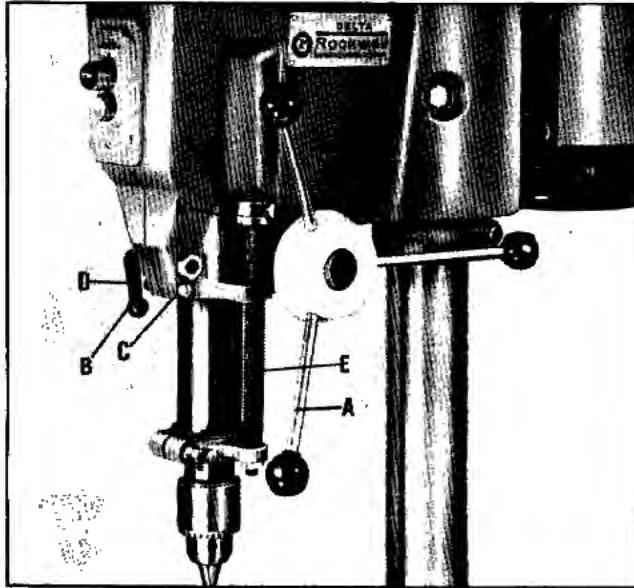
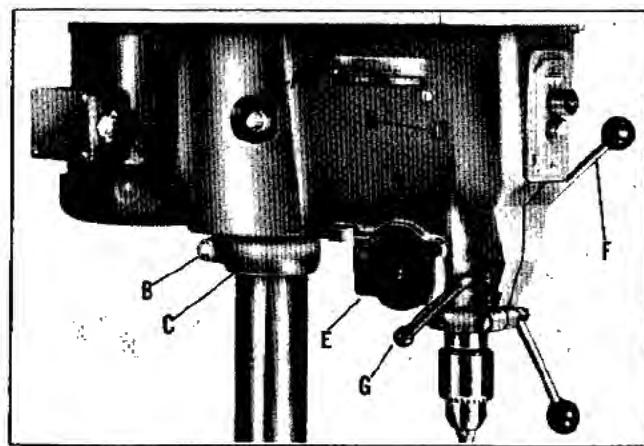

Fig. 5
Fig. 6
Your 15" Drill Press has been completely assembled and tested at the factory. All that is necessary for you to do is loosen the clamp nut (A) Fig. 6, on left hand side of head, that holds the head to the column, slide the head up until casting top is level with the top of the column and retighten clamp nut. Then loosen clamp nut (B) Fig. 6, move support collar (C) up against bottom of head, and tighten clamp nut. The table and all other machined or unpainted surfaces of the drill press are protected with a coating of rust preventive. This coating may be removed with a soft cloth moistened with kerosene (do not use acetone, gasoline or lacquer thinner for this purpose.) After cleaning, cover all unpainted surfaces with a light film of good machine oil.
The spindle is raised and lowered by the pilot wheel (A) Fig. 5. The quill can be locked at any desired point in its travel by tightening the quill lever (B) Fig. 5. This is an especially desirable feature for router and shaper work.
The adjusting screw (C) Fig. 5 and nut (D) are set at the factory to give the quill the proper sliding fit in the head casting. After long service play between quill and head casting can be removed without the need to replace these parts. The nut (D) Fig. 5 is loosened, adjustment is made with the screw (C), and the nut is again tightened to prevent the screw from turning. Hold the screw with a screwdriver when nut is tightened, and check by moving the quill up and down several times to be sure the quill does not bind. This adjustment should be made with the stop rod (E) Fig. 5 removed.
When drilling one or two holes to a predetermined depth, the calibrations on the face of the depth stop rod (E) Fig. 5, can be used.
1. Raise the locking sleeve (F) Fig. 5, and turn the micro-nut (G) to the desired position on the stop rod (E).
2. Lower the locking sleeve (F) so it will engage micro-nut (G) Fig. 5. Lock sleeve in place with thumb screw if drill press head is mounted in other than vertical position. When the drill press is mounted with the chuck pointing up the locking sleeve (F) and micro-nut (G) Fig. 5, should be reversed on the stop rod (E).
3. When locking sleeve (F) is in place on the micro-nut (G) Fig. 5, the micro-nut can not be turned. When a change in depth is required, the locking sleeve (F) must be raised and while it is raised, turn the micro-nut (G) the necessary calibration marks. Each mark represents .002". Then lower the locking sleeve.
For the purpose of automatically returning the spindle upward after the hole has been drilled, a clock spring is provided enclosed in the case (D) Fig. 6. This spring has been properly adjusted at the factory and should not be disturbed unless absolutely necessary. If at any time it is necessary to adjust it proceed as follows:
1. To increase the tension of the spring, turn the screw (E) Fig. 6, which is located underneath the head, clockwise. CAUTION: BE CAREFUL NOT TO BOTTOM RETURN SPRING WHILE TURNING SCREW (E) FIG. 6, CLOCKWISE, THERE SHOULD BE ENOUGH SLACK LEFT IN SPRING TO PERMIT LOWERING THE SPINDLE THE FULL AMOUNT OF TRAVEL.
2. To decrease tension of the spring, turn the screw (E) Fig. 6, counterclockwise.
3. The tension of the spring can be tested by pulling down the pilot wheel lever (F) Fig. 6, and testing to see if the quill will return to the up position. Be sure the quill locking lever (G) Fig. 6, is loose while testing. NOTE: Before determining if this adjustment is necessary, make sure the stop rod (E) Fig. 5, runs freely up and down and is not twisted in the slot or guide of the head casting.
The ball bearings in the quill and spindle pulley are grease-scaled for life. The quill is oiled through oiler (H) Fig. 6, which is on the left side of the drill press head. The head has a groove on the inside to allow the oil from the oiler (H) to flow down and oil the pinion shaft and rack.
The spindle return clock spring should be oiled three or four times a year. This is lubricated through the oil holes provided in the clock spring housing (D) Fig. 6.